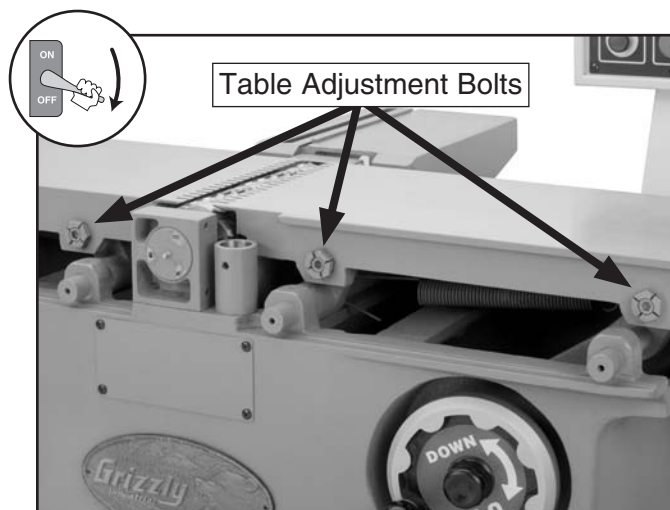

Figure 70. Front table cover removed to expose the table adjustment bolts.
7. Remove the front table cover to expose the table adjustment bolts, as shown in **Figure 70**.